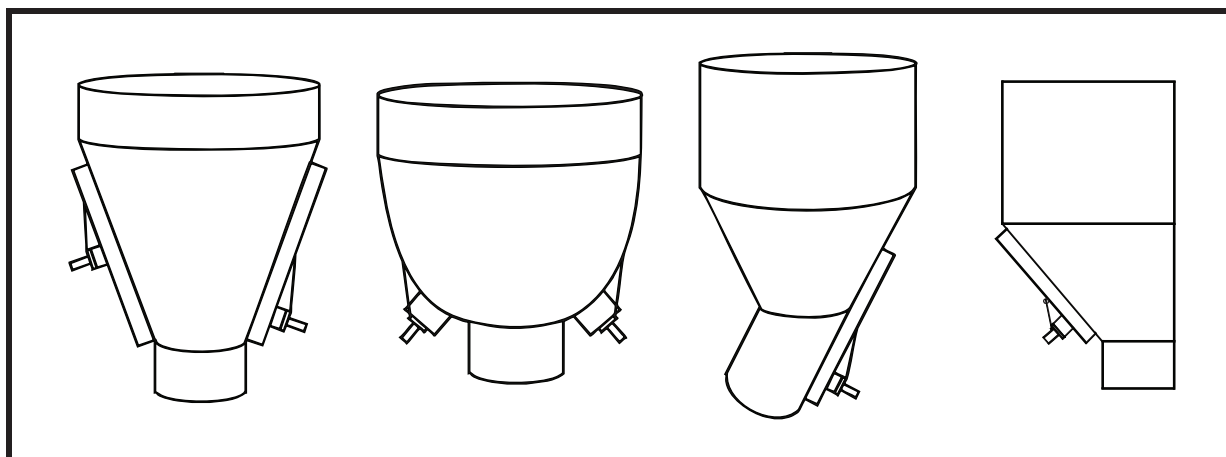

Figure 1. Locating Vibrator/Impactor on Structure
See Figure 1. Locate vibrator/impactor in lower 1/4 to 1/3 of structure slope length. If second vibrator/impactor is required, mount 180° from first vibrator/impactor and halfway up slope.
- b. Locate plate so that vibrator/impactor can be positioned as shown in Figure 1.
- a. Locate beam so that vibrator/impactor can be positioned as shown in Figure 1.